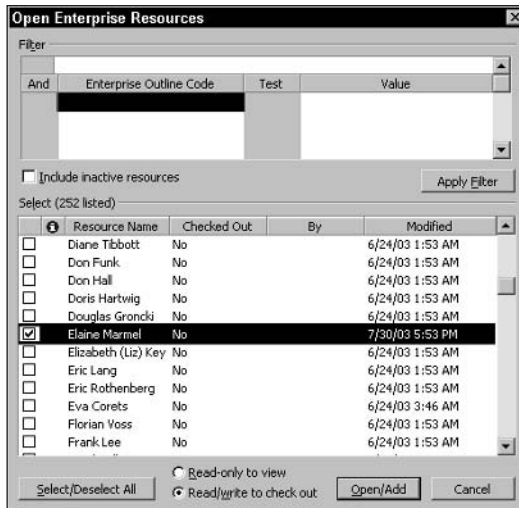

Figure 19-30: Use this box to check out enterprise resources.
2. Choose Tools → Enterprise Options → Open Enterprise Resource Pool. Project displays the Open Enterprise Resources dialog box, as shown in Figure 19-30.